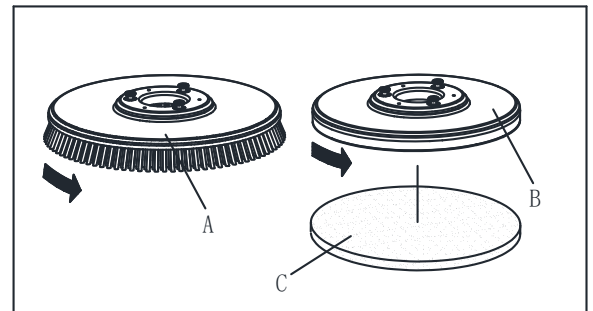

Figure 5
Install either the brush (A, Figure 5) or pad-holder (B and C, Figure 5) according to the type of floor to be cleaned.
1. Insert the ignition key (35) and turn it to "O".
2. Lift the deck by pressing the pedal (9).
3. If equipped, turn the speed adjuster (40) to idle by turning it counter-clockwise.
4. Place the brushes (A, Figure 5) or the pad-holder (B) under the deck (21).
5. Lower the deck on the brushes/pad-holders by pressing the pedal (9).
6. Turn the ignition key (35) to "I".
7. Brush/pad-holder and vacuum system switch (46).
8. Press one of the Brush/forward gear switch (34) to engage the brush/pad-holder, then release it. If necessary, repeat the procedure until the brushes/pad-holders are engaged.
9. If Step No.8 above proves to be difficult, use the manual method by turning the brush/pad-holder in the direction opposite to the normal turning direction, and it can be taken off. (as shown in Figure 5)